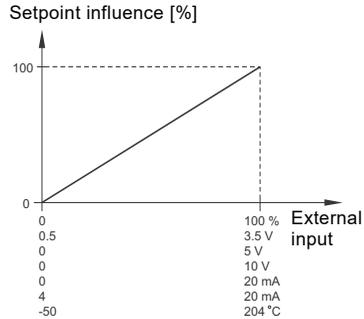

Fig. 47 Linear function
- Linear function. The setpoint is influenced linearly from 0 to 100 %. See fig. 47.